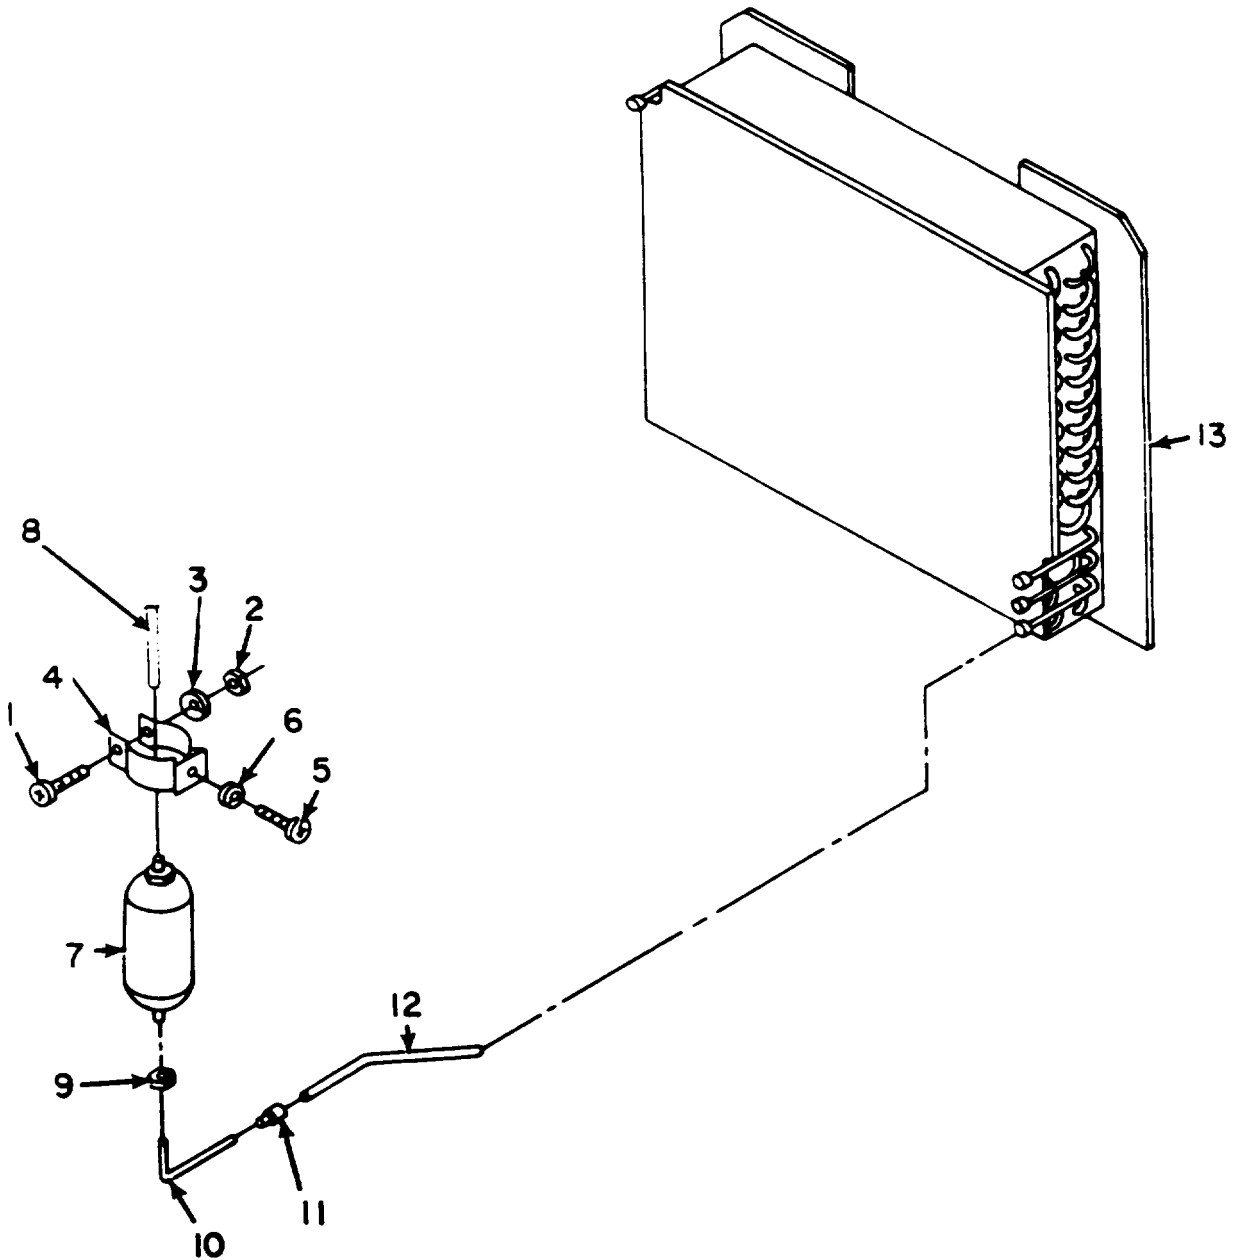

Figure 5-25. Dehydrator (Filter/Drier).
2. Tighten flare nuts (9) if leaks are detected around fittings.
c. REMOVAL. See Figure 5-25.